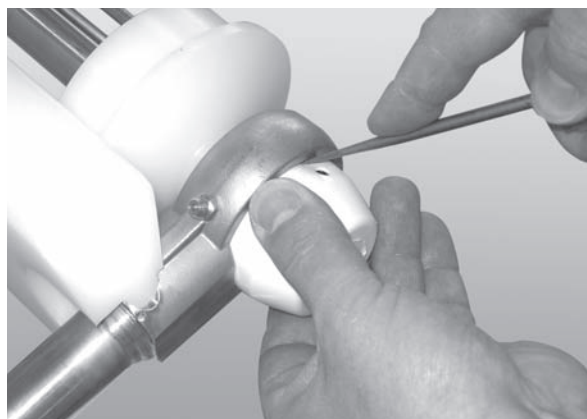

Figure 71
3. Remove the bearing cover (**Figure 71, item 1**).